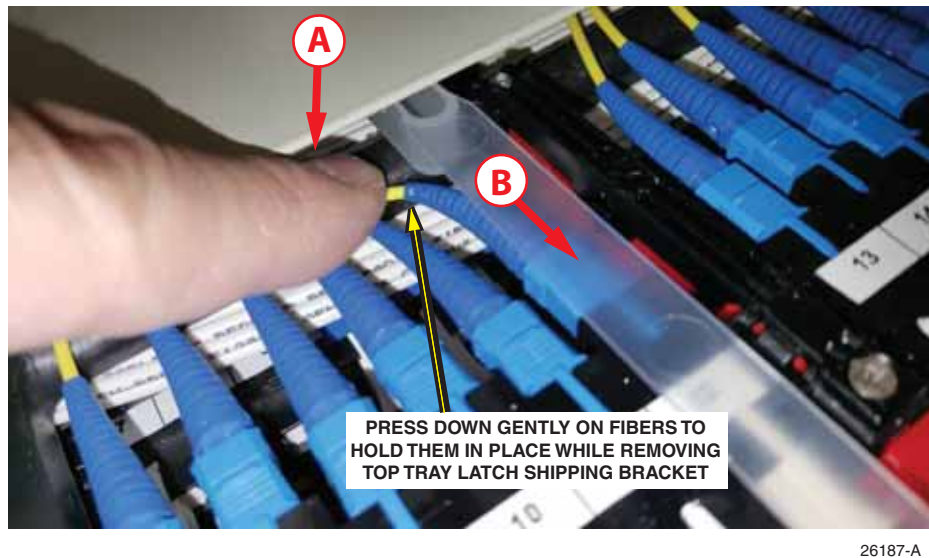

Figure 17. Holding Down Fibers
4. Press down gently on the fibers (A) to hold them in place while withdrawing the top tray latch shipping bracket (B) to prevent damage of fibers, as shown in Figure 17.